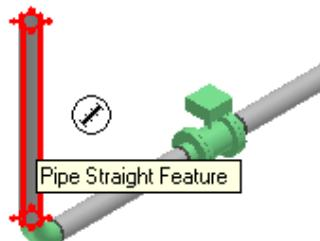

Figure 53: Pipe Straight Feature
38. Now, position the cursor along the **Pipe Straight Feature**, as shown in Figure 53, and click to define the active placement point.